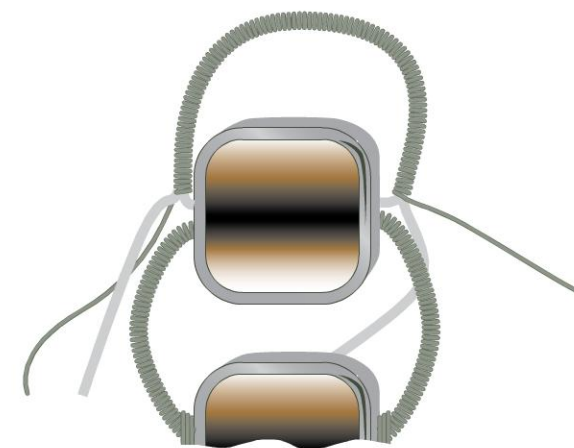

figure 7
- 20** Use the 1' (30.5 cm) tail to coil the second half of the two 22-gauge wires as close to the bead frame as possible (Figure 7).